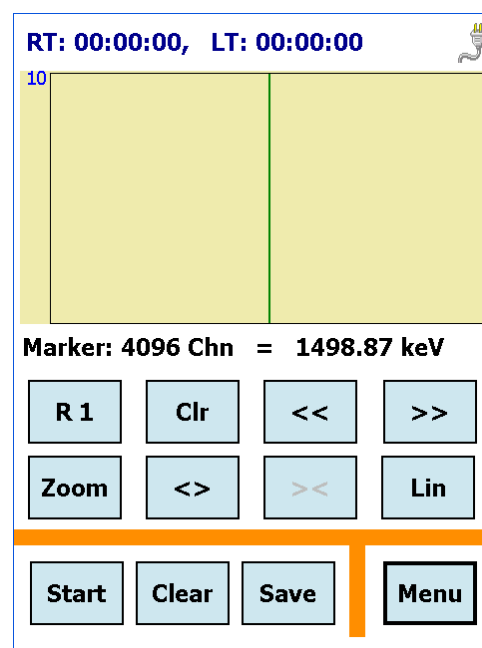

Figure 16. The Home Screen.
- Press the computer's **On** button on the front panel. The computer will boot, the cooler will begin running, and the trans-SPEC software application will start up at the Home screen (Fig. 16). The software requires a few seconds to complete initialization and become active. If a user password has been set, enter the password according to Section 4.1.7.1.
- When you first turn the unit on, it starts on the Home screen, as shown in Fig. 16. Tap **Menu** to open the main Menu.